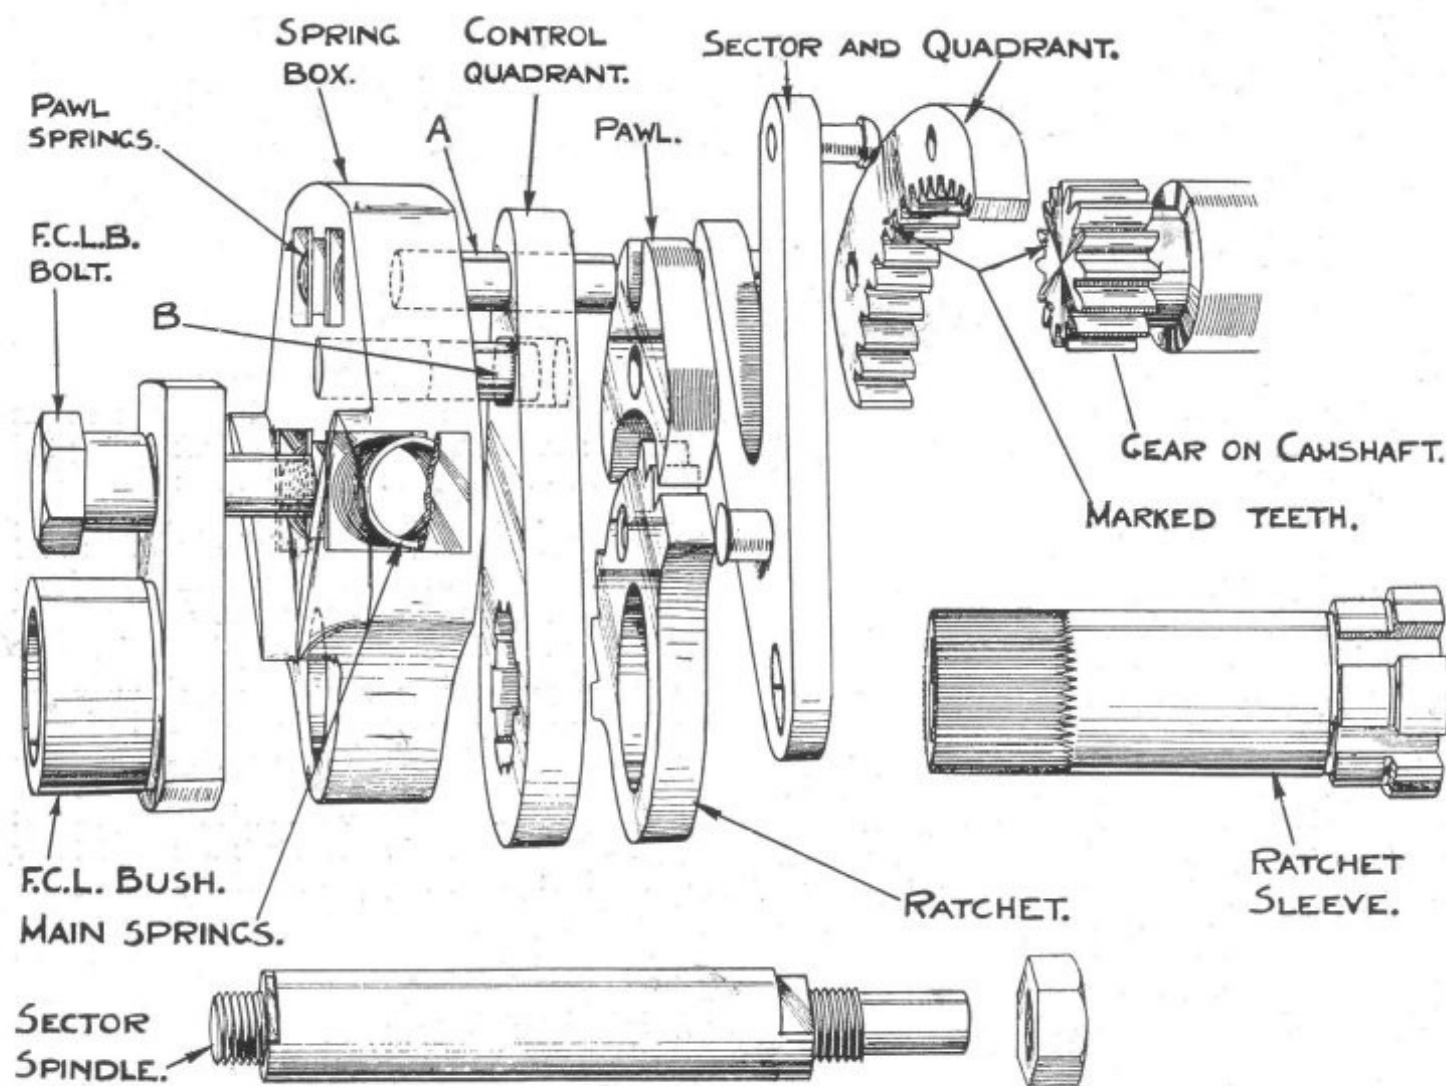

Fig. D2. Exploded arrangement of Foot Gear Change Mechanism.
4. Foot Gear Change Mechanism. (See Fig. D2).